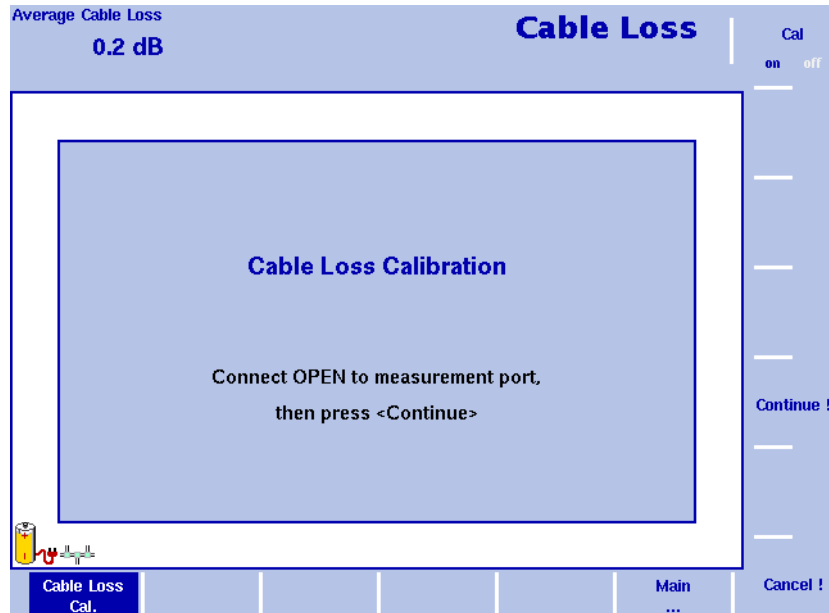

Figure 52 Cable Loss Calibration menu
- 3 The 9102 will guide you through the calibration process by onscreen messages as shown in Figure 52. When prompted as shown connect the calibration set to the test port extension cable and press **Continue**. You can abort the calibration process by pressing the **Cancel !** softkey.